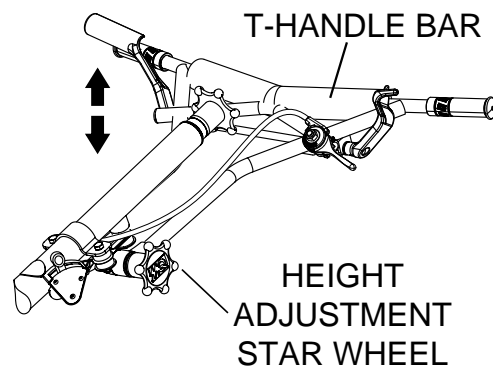

Figure 7. Upper Handle Adjustment
3. If readjustment is necessary, loosen the star wheel as shown in Figure 7 and move the handlebar to the desired position.